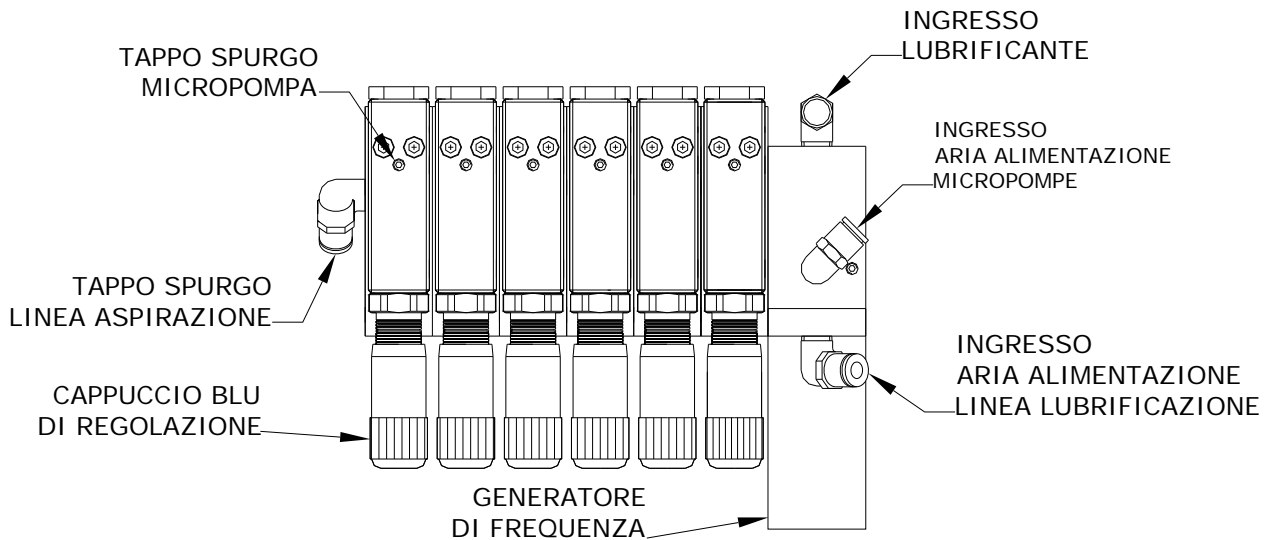

Fig. 1
- Bleed the air from loosening the drain plug (Fig. 1) located to the left side of the last sub group of the micropump. Check that the oil from getting into the pipe and wait for the release before replacing the cap. To remove the residual air, act on each bleeder screw micropump placed near to the mounting screws. Unscrew the bleed screw to wait for the leakage of the lubricant being careful not to lose the ball seat. Tighten the screw.
To adjust the delivery of the pump action on the blue cap (Fig. 1).